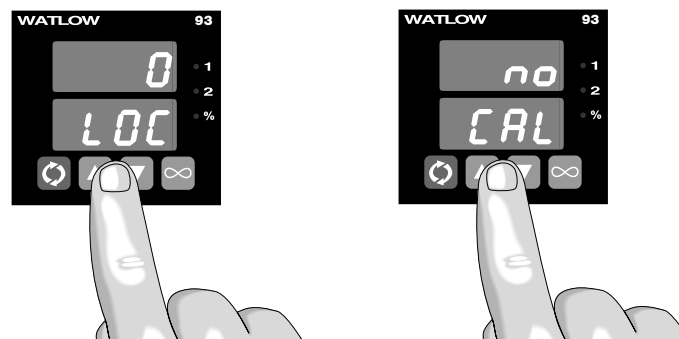

Figure A.3 - Entering the Calibration Menu.
3. Apply power to the controller and allow it to warm up for 15 minutes. **After warm-up** put the controller in the Calibration Menu. See Figure A.3. Select .
3. Apply power to the controller and allow it to warm up for 15 minutes. **After warm-up** put the controller in the menu. See Figure A.3. Select . Press the \rightarrow Advance key until the 440 prompt is displayed.
3. Apply power to the controller and allow it to warm up for 15 minutes. **After warm-up** put the controller in the menu. See Figure A.3. Select . Press the Advance key until 0.00 is displayed.
3. Apply power to the controller and allow it to warm up for 15 minutes. **After warm-up** put the controller in the menu. See Figure A.3. Select YES. Press the Advance key until 4 is displayed.
3. Apply power to the controller and allow it to warm up for 15 minutes. **After warm-up** put the controller in the `[CAL]` menu. See Figure A.3. Select **YES**. Press the **☉**Advance key until the 4A0 prompt is displayed.